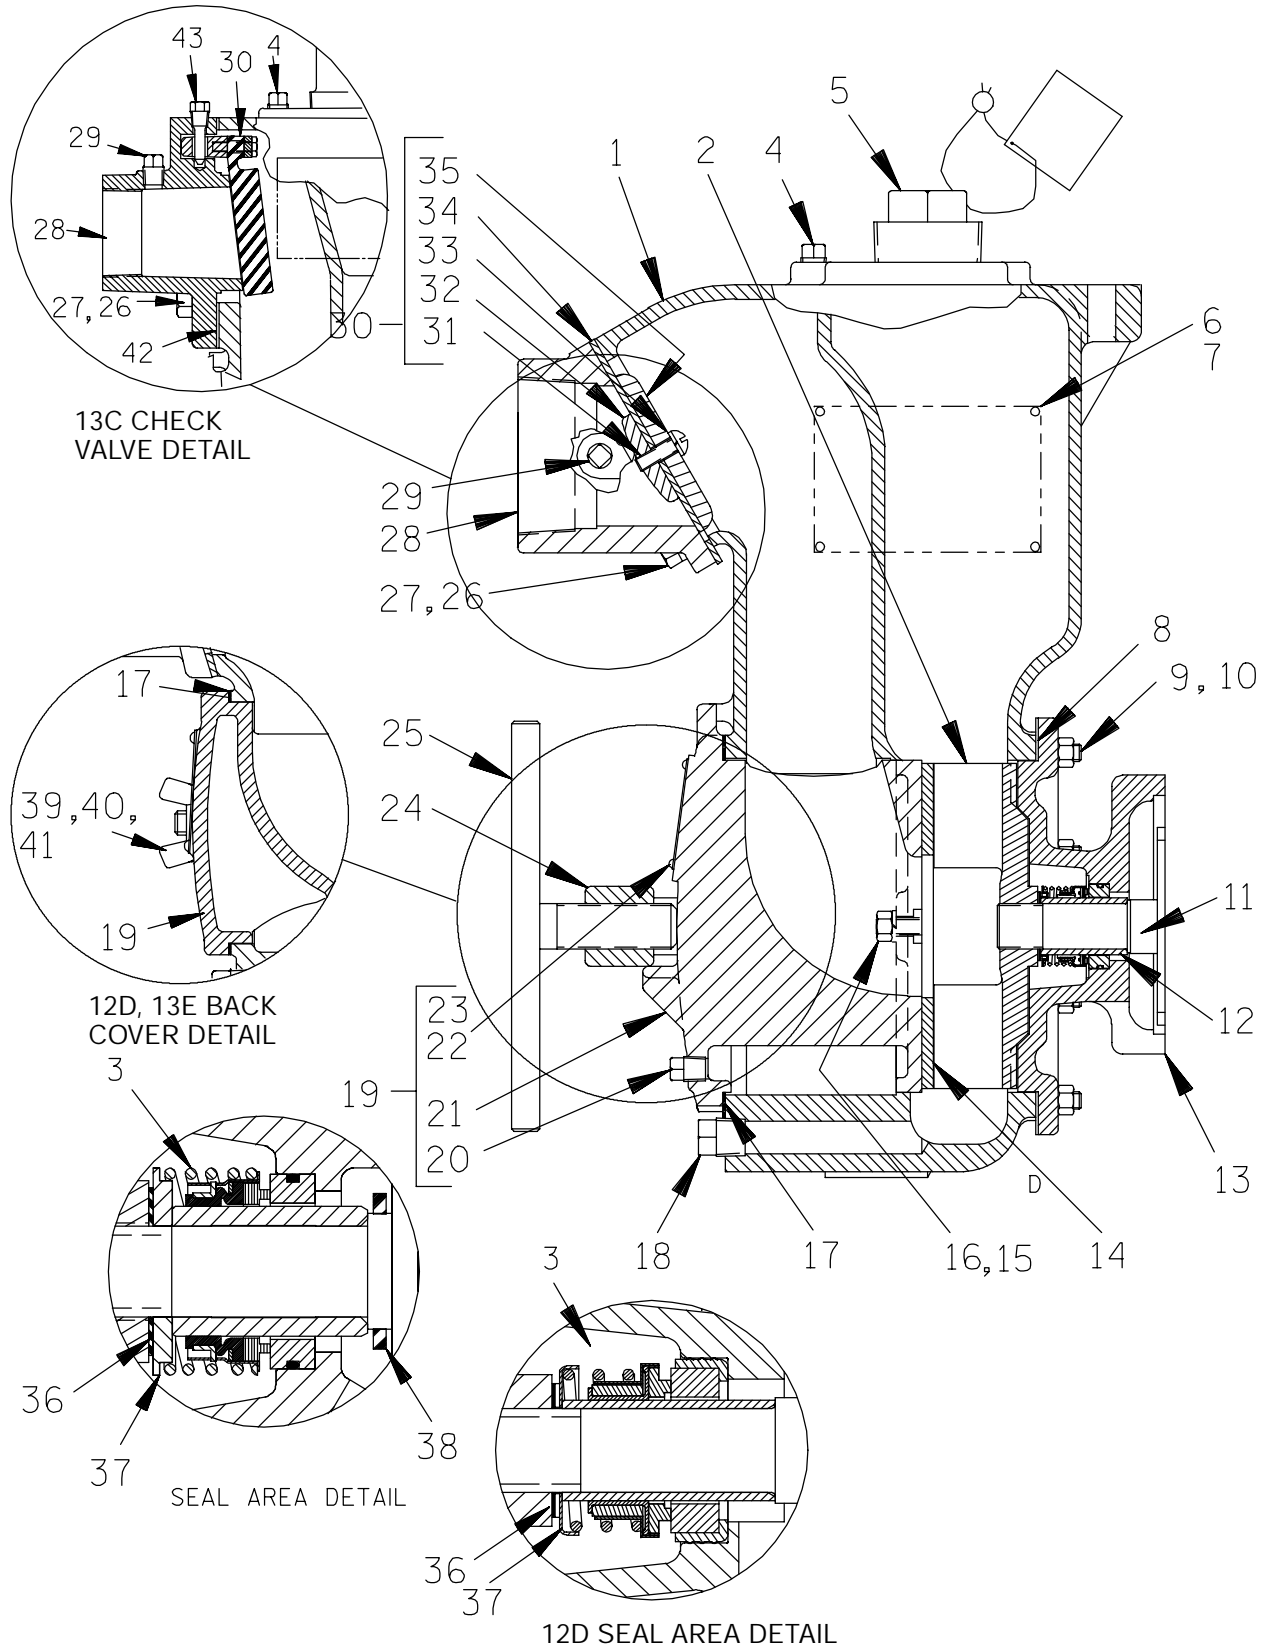
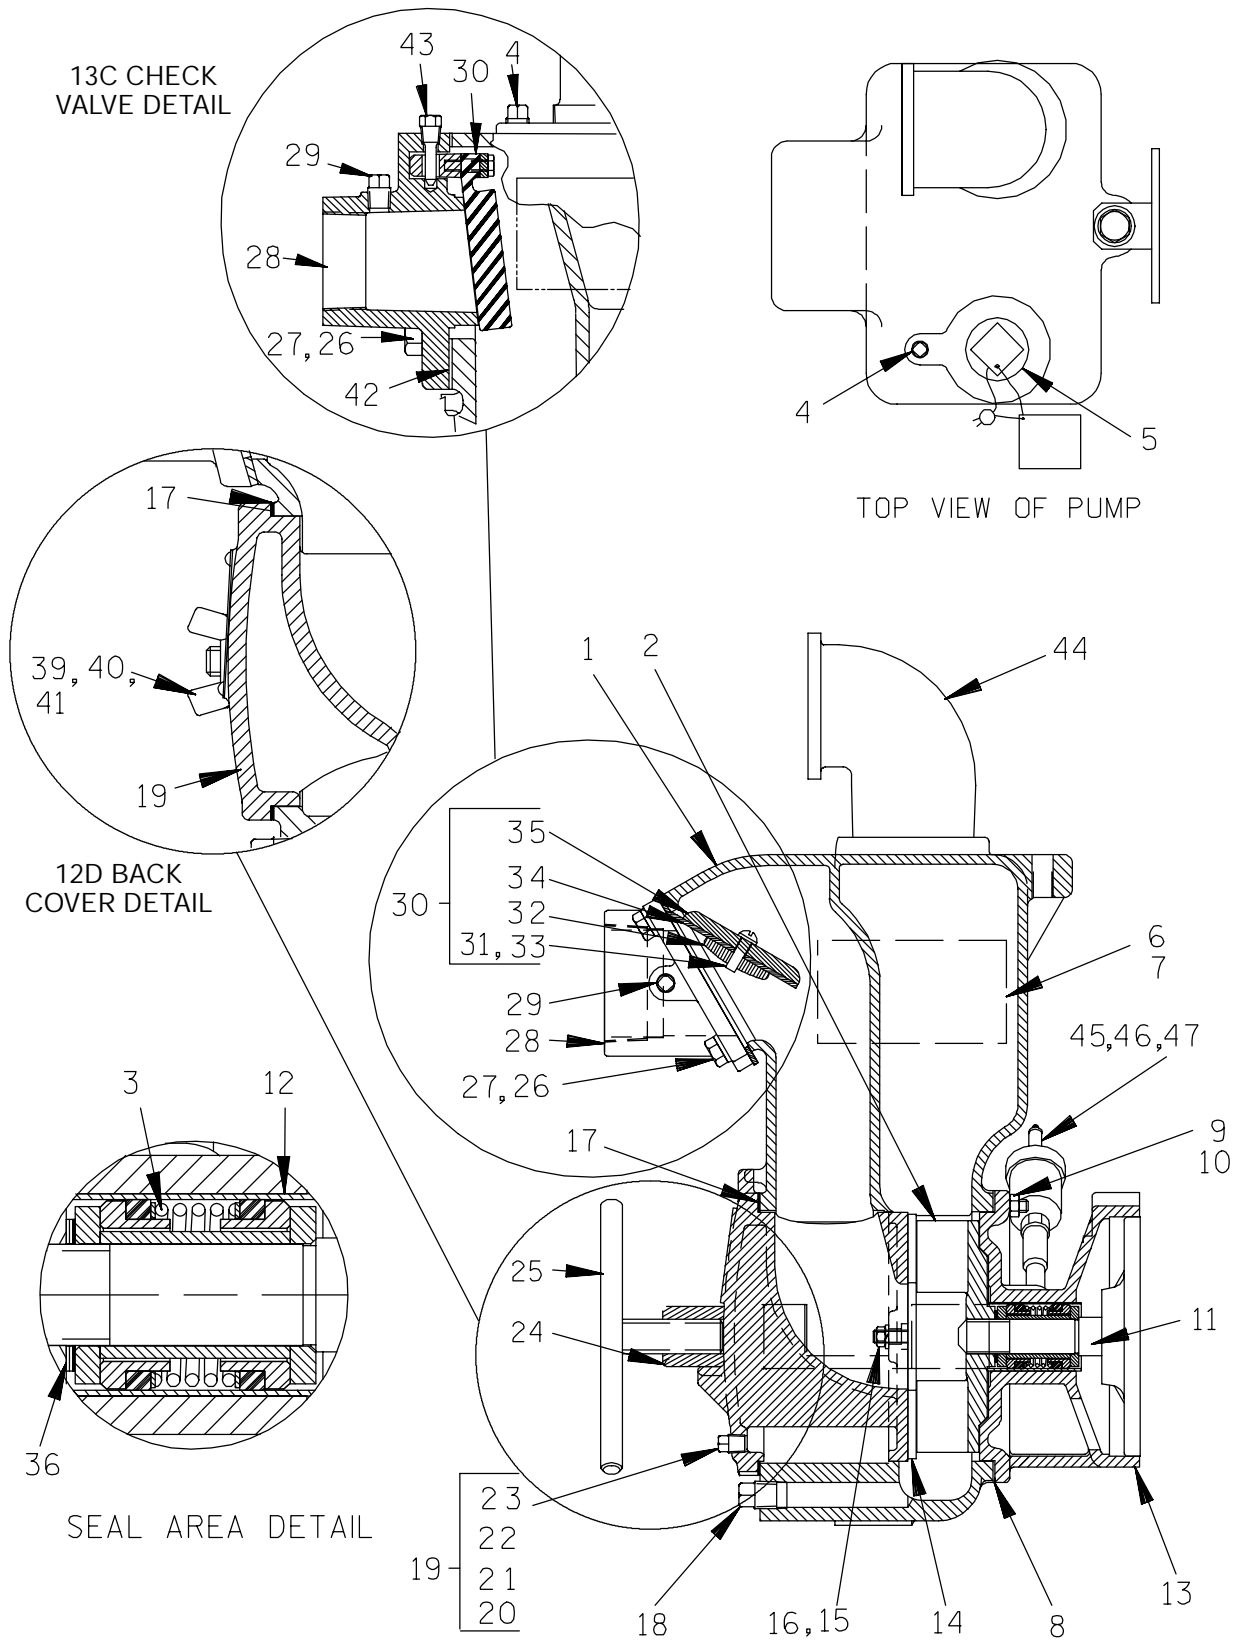

Figure C-1. Typical 12D, 13A, 13C And 13E Pump End Assembly w/Self Lubricated Seal
Figure C-2. Typical 12B, 12C, 12D, 13A And 13C Pump End Assembly w/Grease Seal
The maintenance and repair instructions in this manual are keyed to the sectional view, Figure C-1 or C-2 and the corresponding parts identification list. Refer to the separate Parts List Manual for replacement parts.
This pump requires little service due to its rugged, minimum-maintenance design. However, if it becomes necessary to inspect or replace the wearing parts, follow these instructions which are keyed to the sectional views (see Figure C-1 or C-2) and the accompanying parts list. Unless otherwise specified, the instructions apply to either Figure C-1 or Figure C-2.
(Figure C--1 or Figure C--2, Models 12B, 12C, 12D, 13A, And 13E)
(Figure C--2, Model 13C)
If the pump is equipped with a grease seal, turn the cross arm on the automatic lubricating grease cup (45, Figure C-2) clockwise until it rest against the cover (see Figure C-5) before attempting to remove the impeller (2). This will prevent the grease in the cup from escaping when the impeller is removed.
(Figures C--2 and C--4)